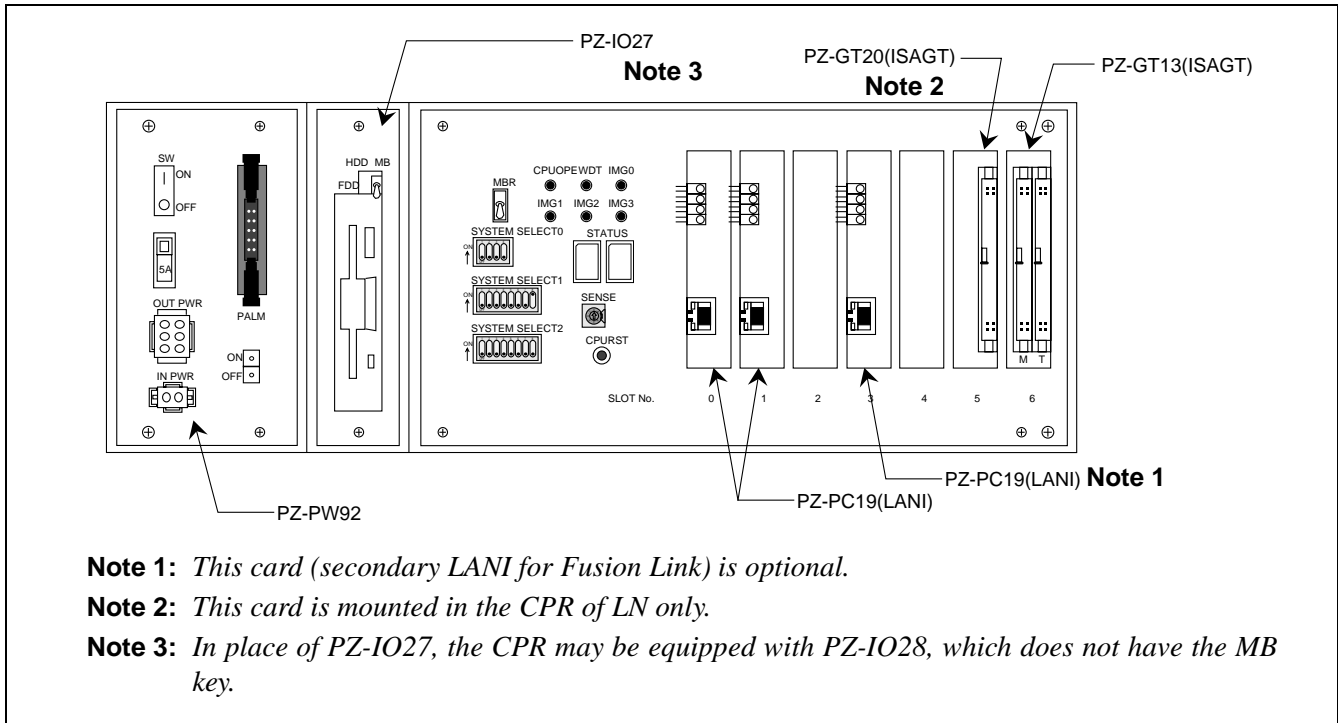

Figure 4-2 CPR Face Layout
This section explains how to replace the Control Processor Rack (CPR). The CPR is mounted in IMG 0 of LN and ISW. Before starting the procedures, make a backup copy of the main data, such as office data, Call Forwarding (CF) data and Speed Calling (SPD) data, on to the hard disk of the HFD. Figure 4-2 shows the front view of the CPR. Operate the related keys and connectors to replace the CPU with a new one. Using a Phillips screwdriver, remove the four screws and extract the CPR with care, as shown in Figure 4-3.
- Refer to Figure 4-2 for CPR face layout.